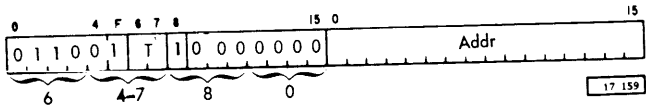

Figure 9. LDX Hexadecimal
**Hexadecimal.** The hexadecimal versions of the LDX instruction depend on the F, T, and IA bits (Figure 9):